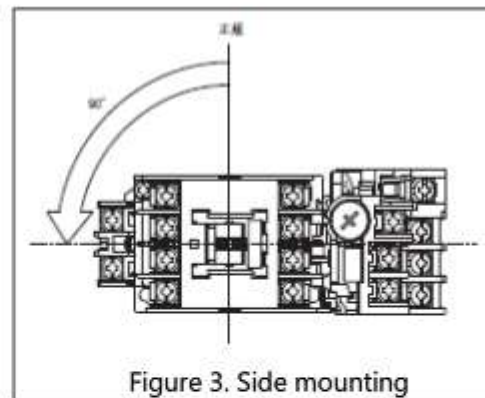

Figure 3. Side mounting
4. To side mount the equipment, as shown in figure 3, mount it horizontally (inclined at 90 degrees counter-clockwise).